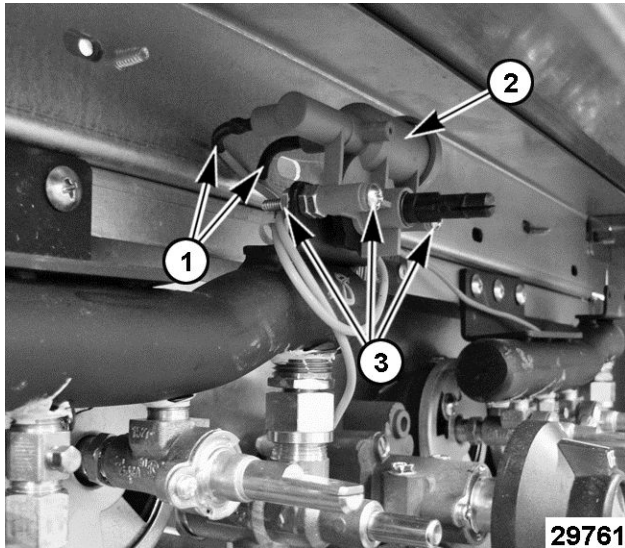

Fig. 66
2. Disconnect igniter wires (1, Fig. 66) at the rear of rotary igniter (2, Fig. 66).
3. Remove screws and nuts (3, Fig. 66) securing rotary igniter (2, Fig. 66) to the mounting bracket on gas manifold then remove rotary igniter.